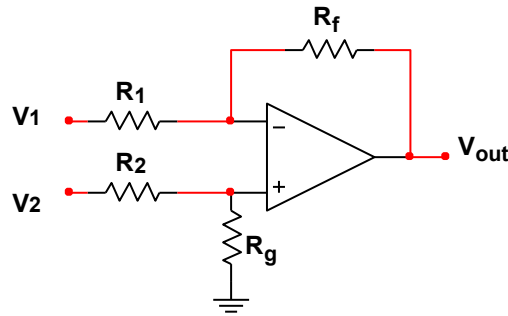

Figure 4.1 – Difference Amplifier
1. **Build the Summing Amplifier** according to your prelab design and **Figure 4.1**.